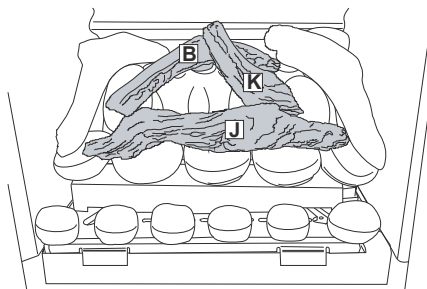

Figure 34
6. Next place the **B**, **J** & **K** driftwood pieces as in **Figure 34**.